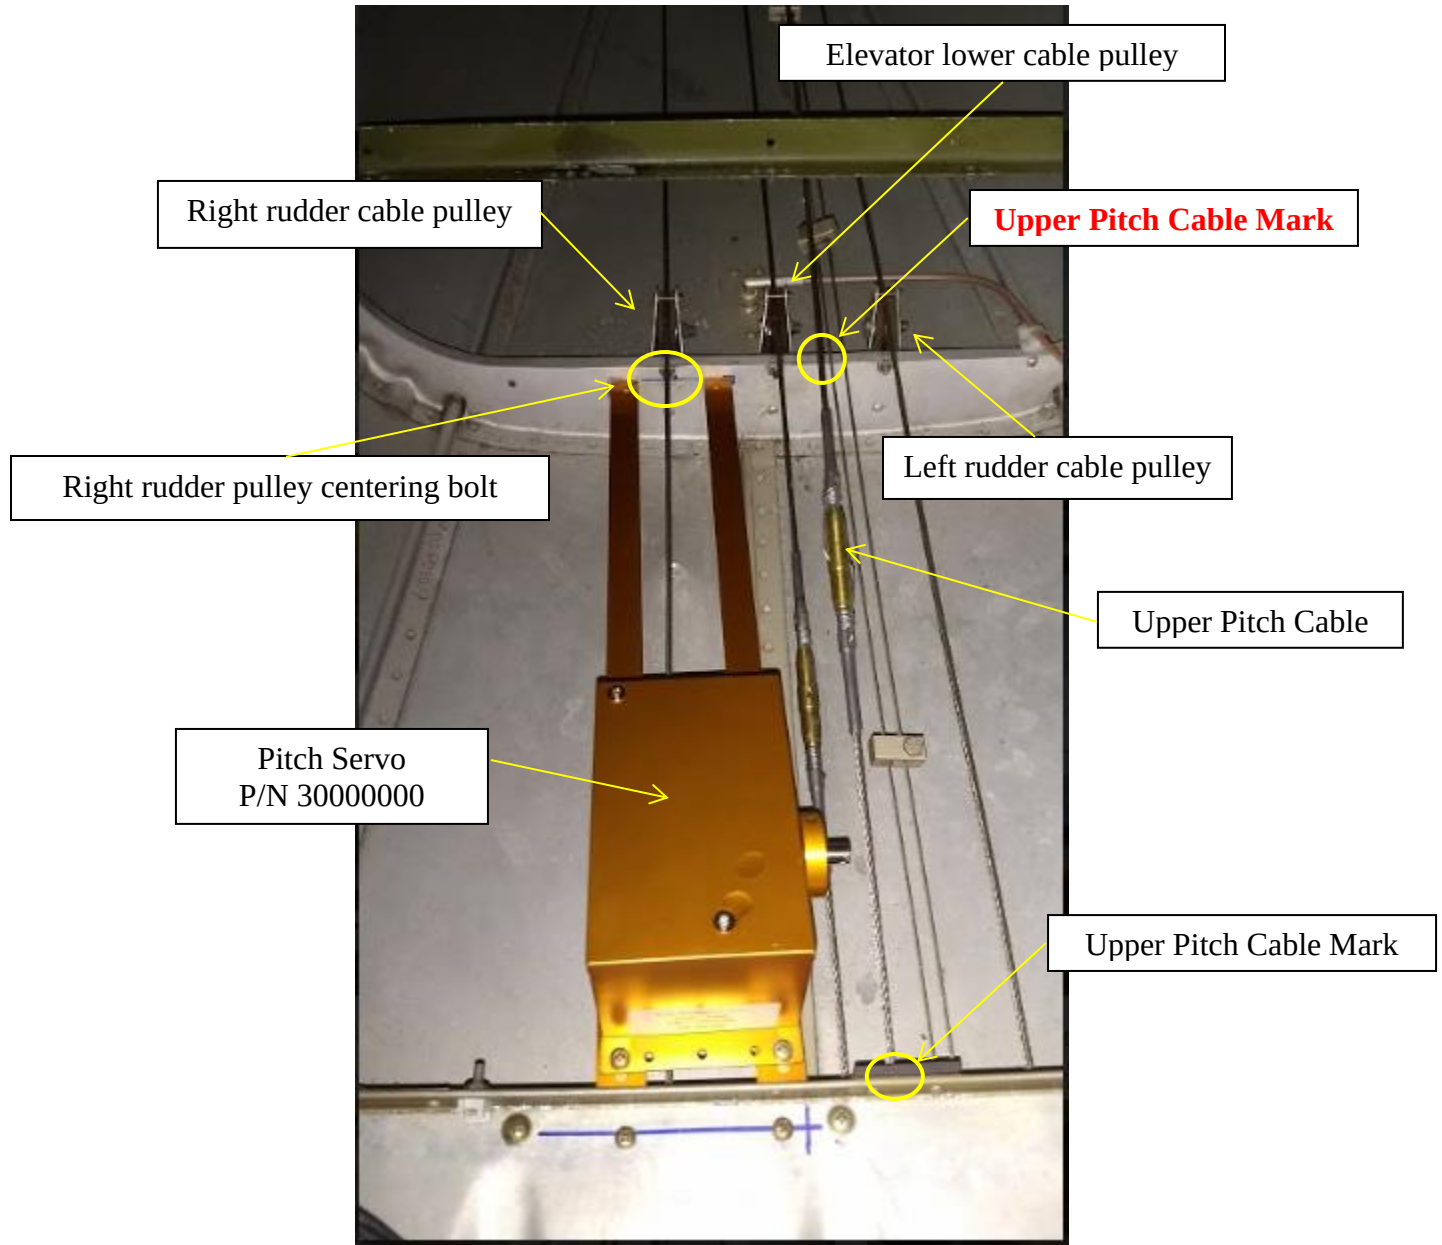

FIGURE 3-2 RIGHT RUDDER CABLE PULLEY
7. With the elevator locked in neutral, mark the location of the starboard side (right) rudder cable pulley at FS-142.00. Refer Figure 3-2 and 3-3.